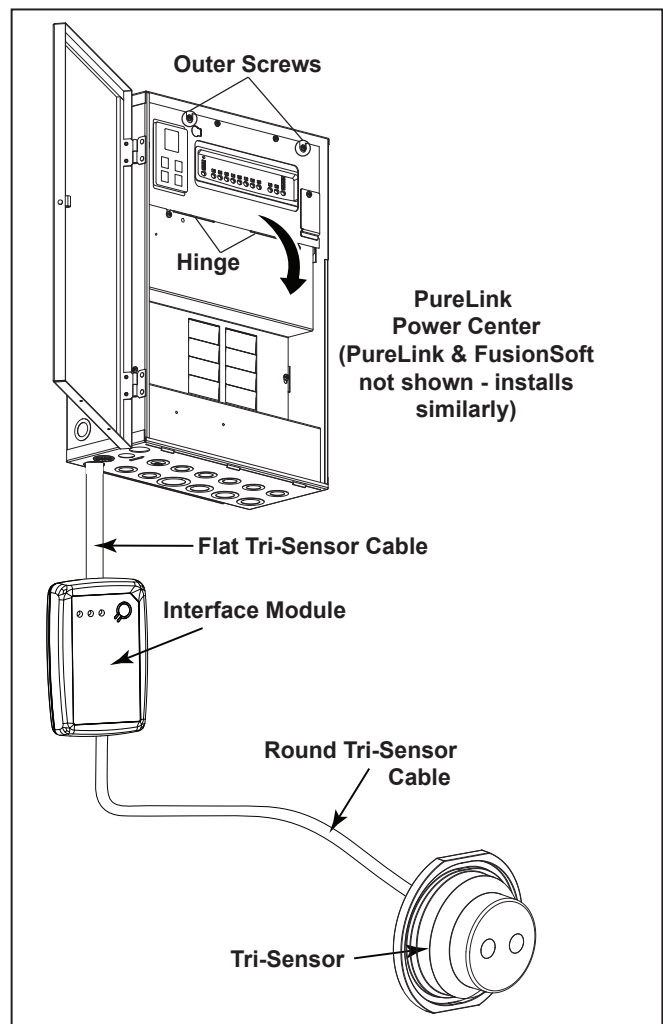

Figure 2. PureLink Power Center Enclosure
2. Open power center door and remove the two (2) outer screws of panel assembly. Fold down panel assembly on its hinge to access chlorine generator power interface board. See Figure 2.
4. Insert the new female connector from the Tri-Sensor cable through the bottom of the power center enclosure. The Sensor Interface Module will remain outside & below the power center as shown in Figure 2.